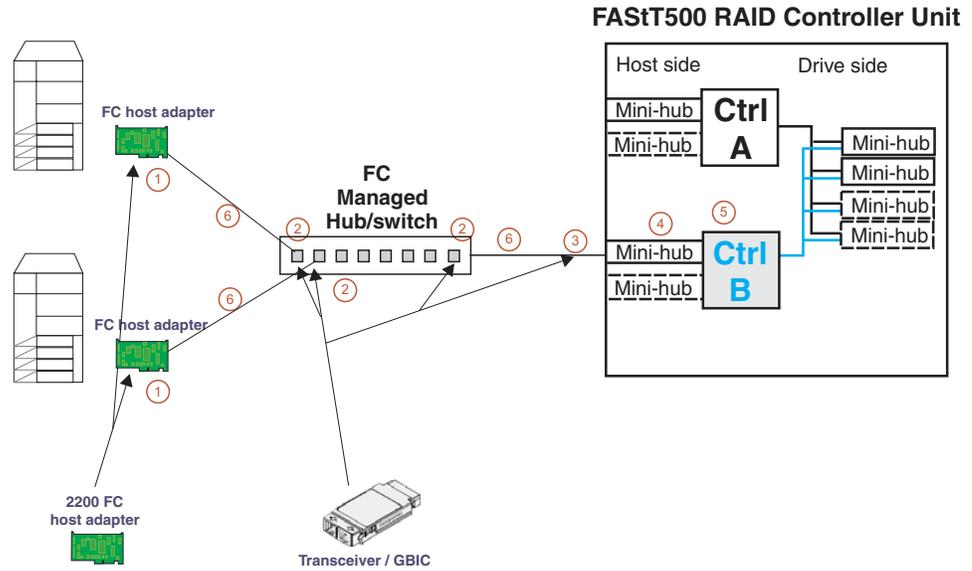

Figure 117. Path Elements Loop
3. To see more clearly what is involved, redraw the configuration showing the path elements in the loop, as shown in Figure 117 on page 269.
The elements of the paths shown in Figure 117 are as follows: